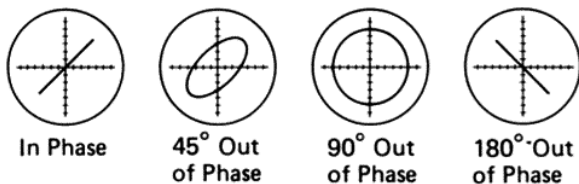

Figure 5-15. Phase Difference Between Both Channels
3. Adjust the azimuth adjustment screws for a phase difference of 90 degrees or less between both channel outputs (refer to Figure 5-15) and, at the same time, for highest output level readings (from both channels).